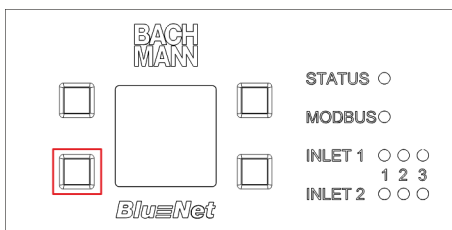

Fig. 84: Display with control buttons
2. ➔ Press the button at the bottom left for two seconds and release it again (Fig. 84/red marking).